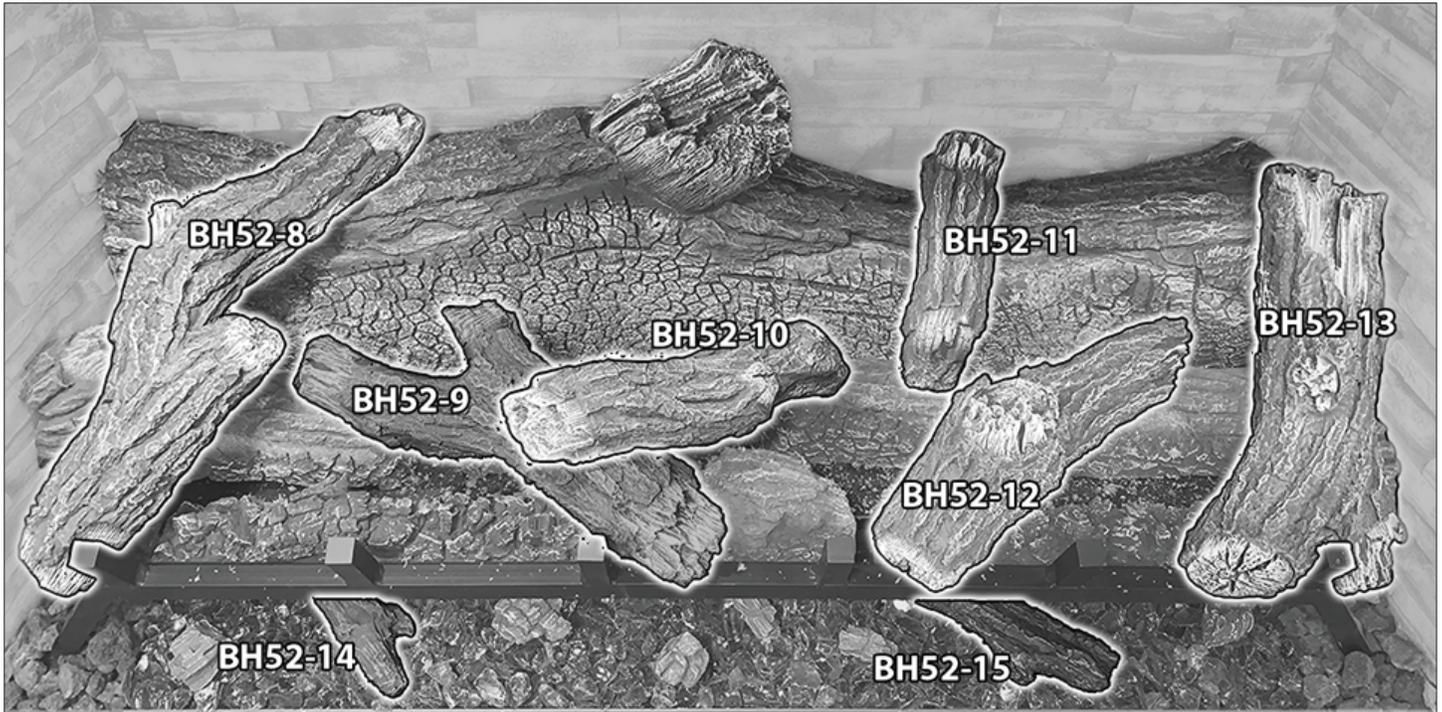

Figure 8.11, Completed Log Set
- Align the hole in the bottom of log BH52-8 with the stud on the left hand side of log BH52-1 and set into position, as shown in Figure 8.11 on the following page.
- Align log BH52-9 with the notches in log BH52-2 and BH52-3 (Figure 8.9). Place as shown in Figure 8.11.
- Align log BH52-10 with the notches on logs BH52-9 and BH52-6 (Figure 8.10), and place as shown in Figure 8.11.
- Align log BH52-11 with the notch in the middle right of log BH52-1 (Figure 8.9) , and place as shown in Figure 8.11.
- Align log BH52-12 with the notch on log BH52-7 (Figure 8.9) , as shown in Figure 8.11.
- Align log BH52-13 with the notch on log BH52-1 (Figure 8.9), and place on logs BH52-7 and BH52-1, as shown in Figure 8.11.